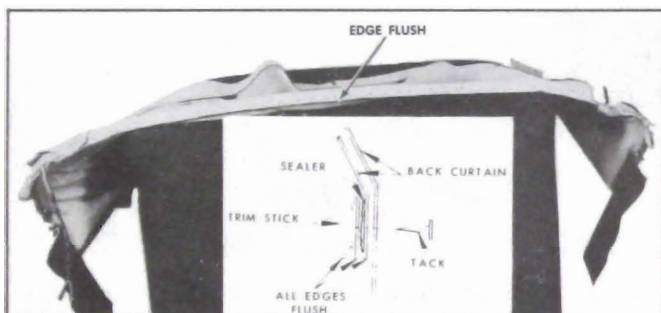
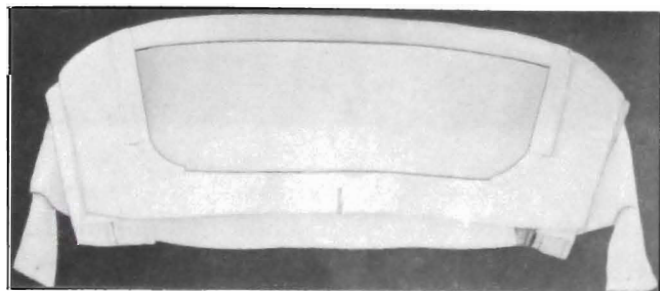

Figure 13-104—Tacking Back Curtain
Figure 13-105—Back Curtain Assembly
4. After sealer has dried, turn back window assembly over with the exterior (vinyl) surface of the back window valance facing down. Apply a bead of 3M Convertible Top Sealer along the inner lower edge of the back window lower curtain at the area which will be tacked to the rear trim stick. See inset in Figure 13-104.
5. Next, center and tack back curtain to rear trim stick as shown in Figure 13-105. The shorter lower edge of curtain should be set flush with lower edge of trim stick as shown in Figure 13-104. Tack curtain to a point opposite outer edges of window and leave outer ends of curtain loose. Tacks should be placed close to each side of every bolt hole in trim stick. Then pierce back curtain for each trim stick bolt.